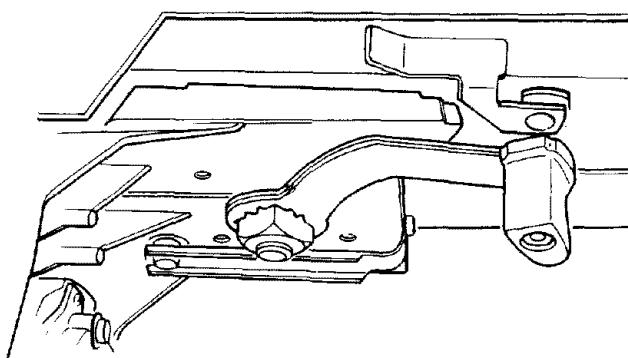

Fig. 151
- Hold the *rip lock* in the unlocked position and with a 7/16 inch wrench tighten the 1/4-20 hex lock nut 1/4 turn. (Figure 151)